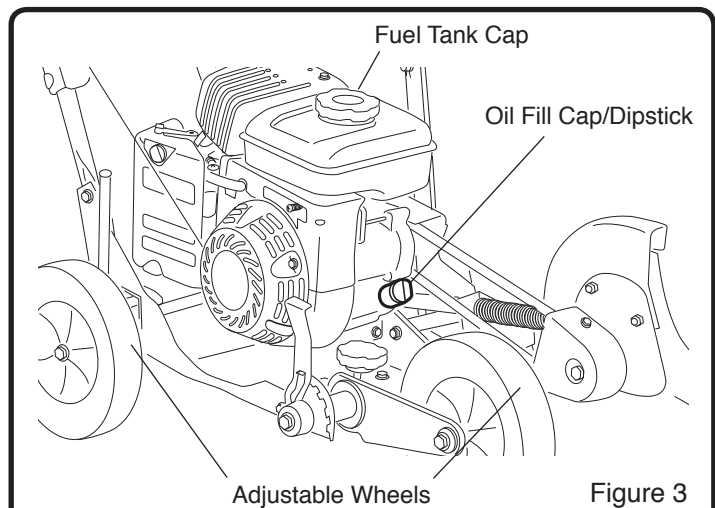

Figure 3
1. Place the edger on a level surface and make sure the adjustable wheel heights are set so the main frame of the edger is level. (See Figure 3)
2. Remove the oil fill cap/dipstick and wipe clean with cloth. (See Figure 3)
1. Clean surface around fuel tank cap to prevent contamination. (See Figure 3)